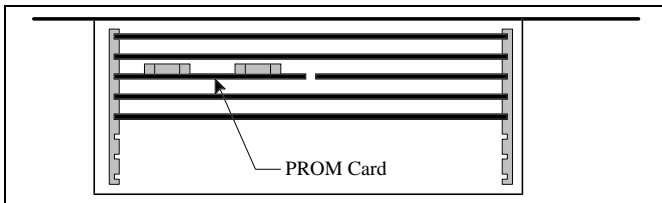

Figure 14 - PROM Card Location for Top Entry
4. Remove the PROM Card (see Figure 14) by pulling on the two tabs fastened to the front edge of the card. Once the card has disengaged the connector, use one hand to push up on the board above to help prevent the PROM Card from dragging as it is pulled out. (Observe standard handling practices for static sensitive components.)